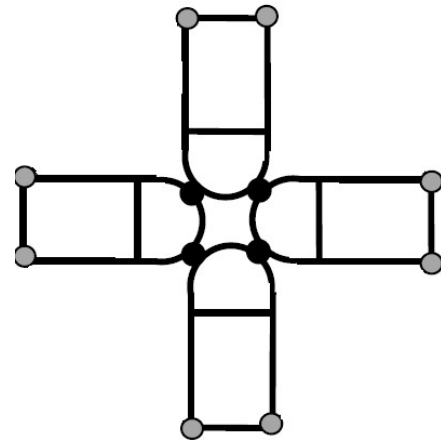

Figure 2: Aerial View of the Gazebo Full Curves Connecting
- Using 4 Parallel Clamps connect the 1/2 Top circles together, as shown in Figure 2.
- The easiest way to ensure that the full curves are connected evenly is to have one or 2 people align the curves to form the shape shown in figure 2, with the straight part of the curve resting on the floor. Once the curves are held in position another person should connect the top curves at the 11 and 1 o'clock